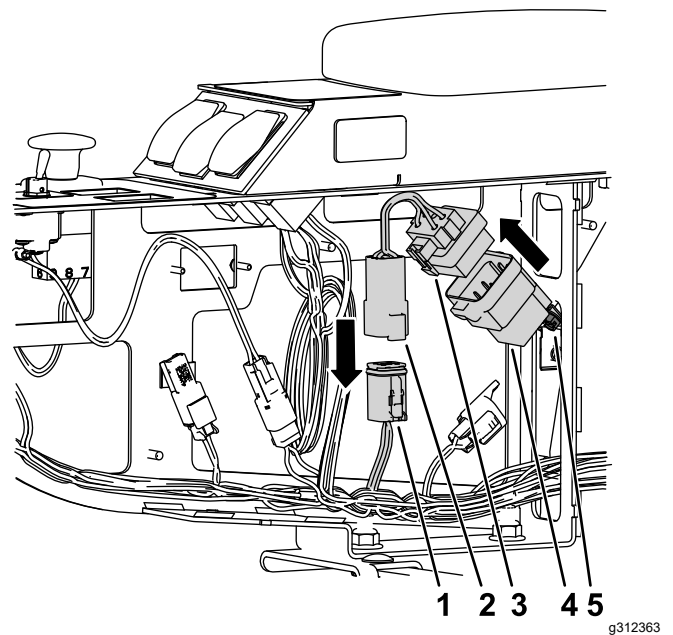

Figure 24
10. Connect the relay and relay harness to the machine wire harness as shown in Figure 24.